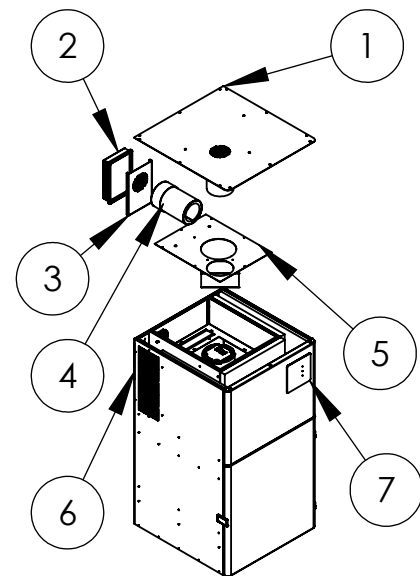

Fig. 1
NOTE: Reference Figure 1 and Table 1 for components mentioned in the subsequent steps.
10. Locate the motor compartment cable passage hole by reaching your hand down in the chanel (between the foam) and will feel for an opening in the soundfoam, along with a hole in the sheet metal (Fig. 1). Next, take the three wire (black, white, and green) cable with metal connector pins on the end of it and feed it through the cable passage into the motor compartment.